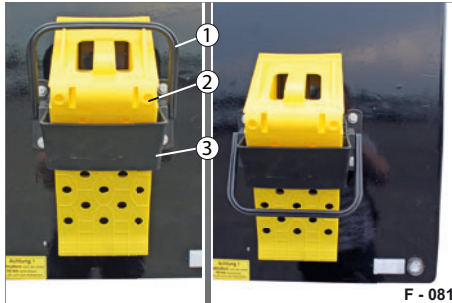

Fig. 107 Wheel chock in retaining brackets
- Pull the retaining clip (Fig. 107/1) towards yourself.
- Remove the wheel chock (Fig. 107/2).
- Fit the wheel chock into the retaining brackets (Fig. 107/3).
- Press the retaining clip (Fig. 107/1) onto the wheel chock.